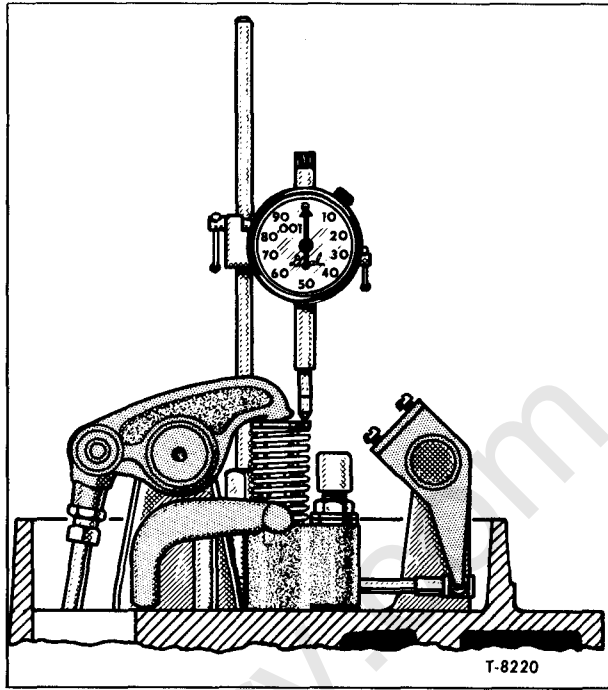

Figure 9—Checking Engine Timing by Measuring Injector Movement (Typical)
17. Install the dial indicator again so the spindle of the indicator rests on top of the injector follower as illustrated in figure 9. Set the indicator dial to "0." Rotate the crankshaft slowly in the